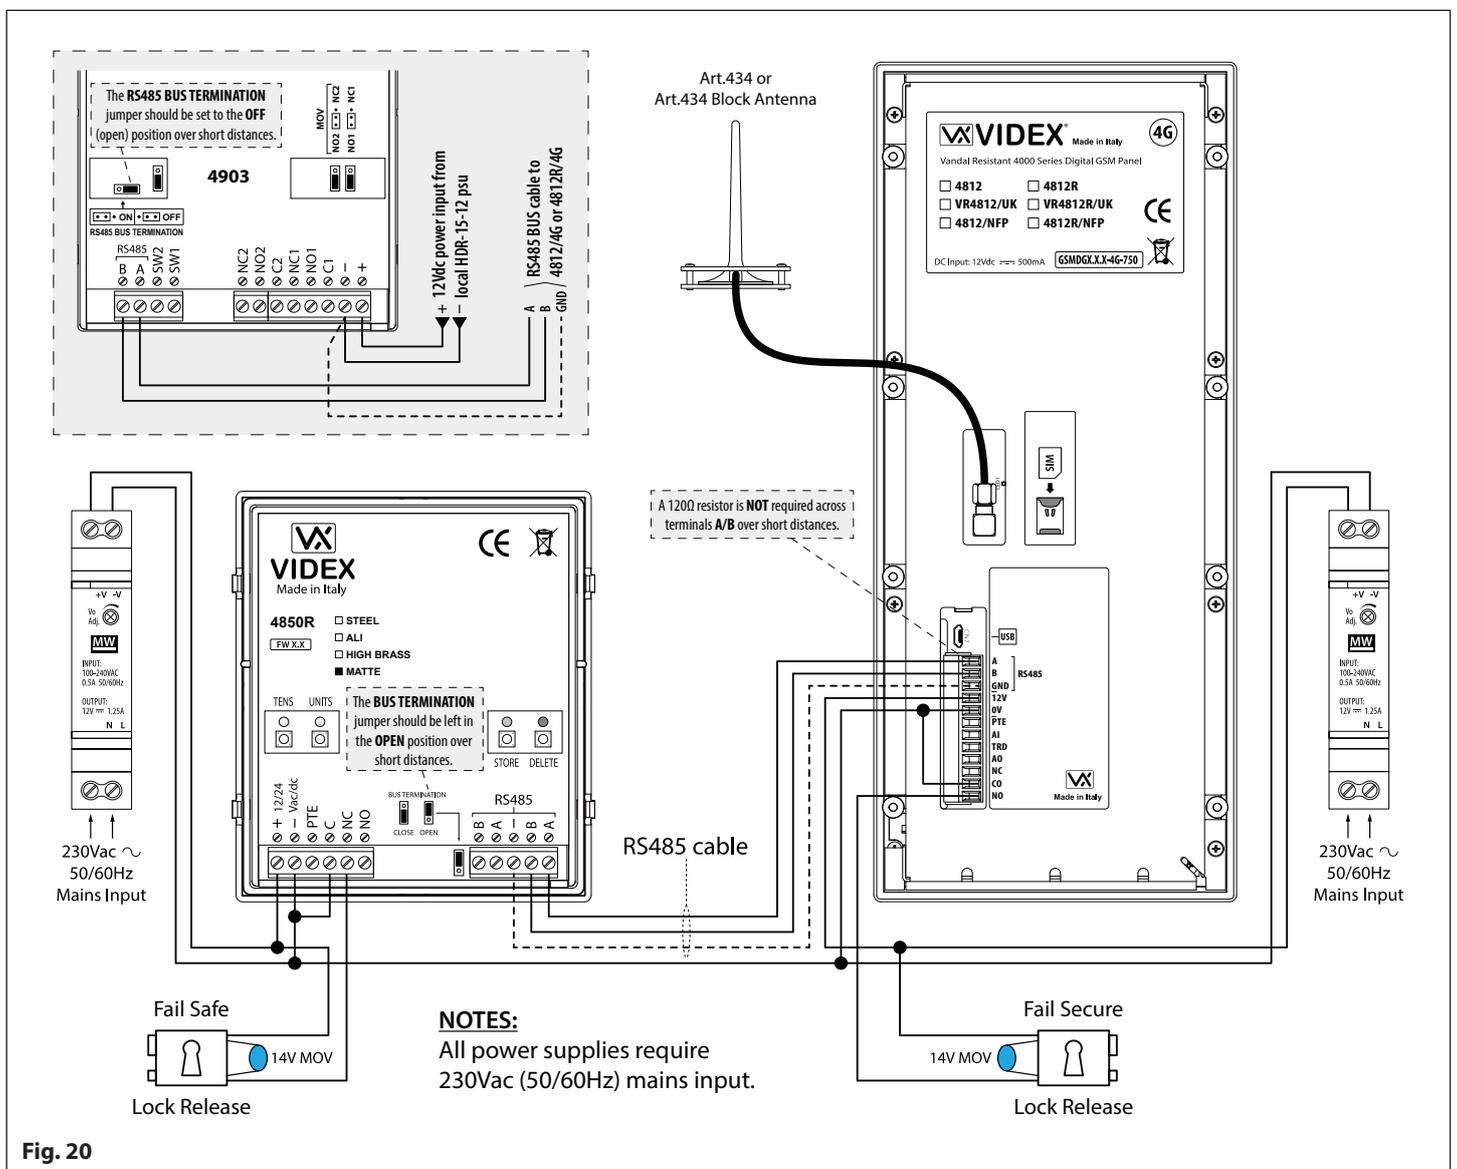

Fig. 20
The RS485 bus terminals on the digital 4G GSM can also be used to connect to an **Art.4850R** expansion reader or an **Art.4903** keypad, see **Fig.20**. When either the **Art.4850R** or the **Art.4903** is connected in this way they will operate as a parallel device with the built-in proximity reader (**Art.4850R**) or the onboard keypad (**Art.4903**) on the digital GSM.
**IMPORTANT NOTE:** For the RS485 bus cable over a short distance (less than 100m) the bus termination on the **Art.4850R** or **Art.4903** should be set to the **OPEN/OFF** position and a 120Ω resistor is **NOT** required across terminals A/B on the digital GSM intercom, as shown in Fig.20 above. The RS485 bus termination jumper should only be set to the **CLOSED/ON** position and a 120Ω resistor fitted across terminals A/B on the digital GSM over longer distances (also see additional notes on page 19).